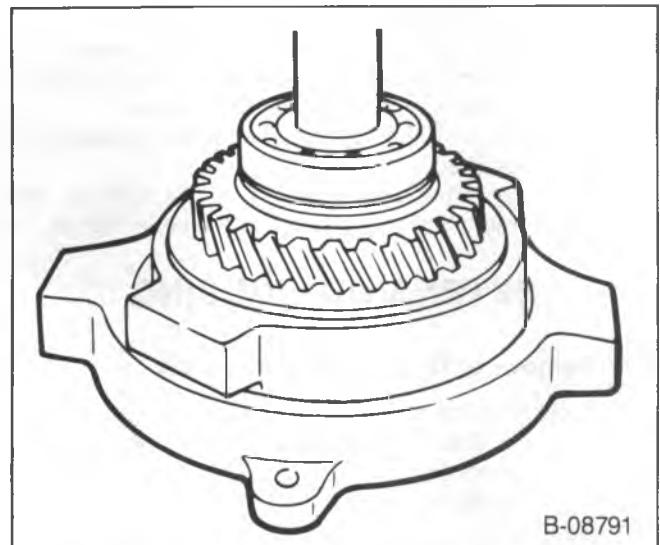

Figure 8—Pressing the Mainshaft through the Bearing
- 5. Rear bearing (415) and the 1st speed gear (414).
- Press the mainshaft through the bearing and the gear (figure 8).
- 7. Remove the snap ring and the 1st and 2nd synchronizer (412).
- 8. Remove the 2nd speed blocker ring and the 2nd speed gear (410).